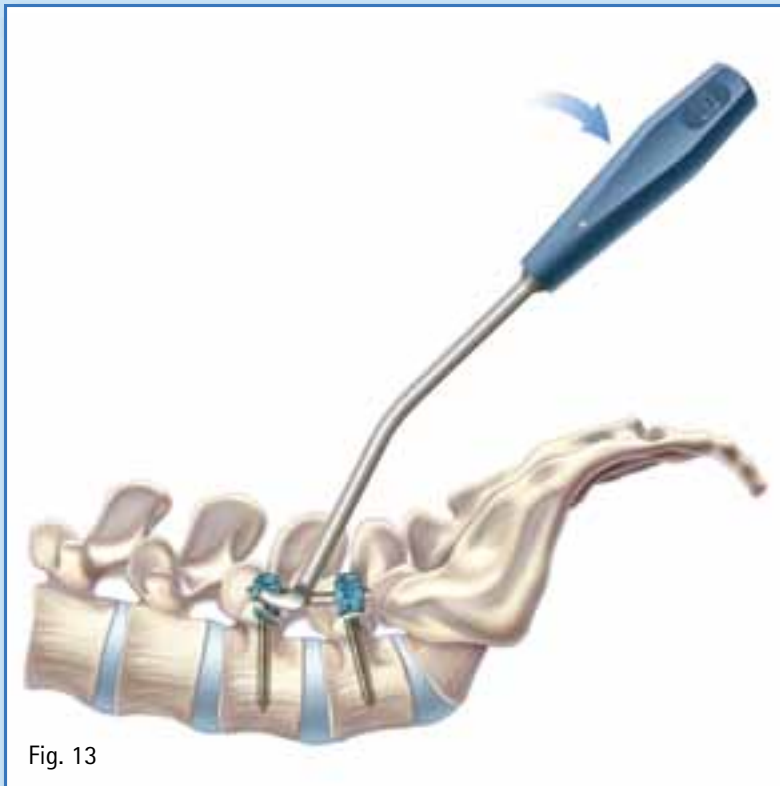

Fig. 13
- Push down on the handle of the fork rocker to lever the rod into the screw head. (Fig. 13)